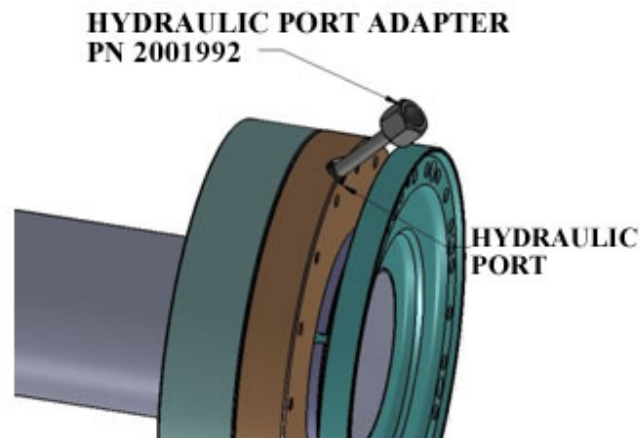

Figure 4
Caution: Possible equipment damage. Do not put excessive torque on the hydraulic port adapter. Do not pull on hydraulic port adapter (See Figure 4).
2.4.4 Thread the Hydraulic Port Adapter fitting (Riverhawk PN 2001992) into one of the hydraulic ports on the HTC as shown in Figure 4.
5.1 Install the hydraulic adapter in one port as in Figure 4.